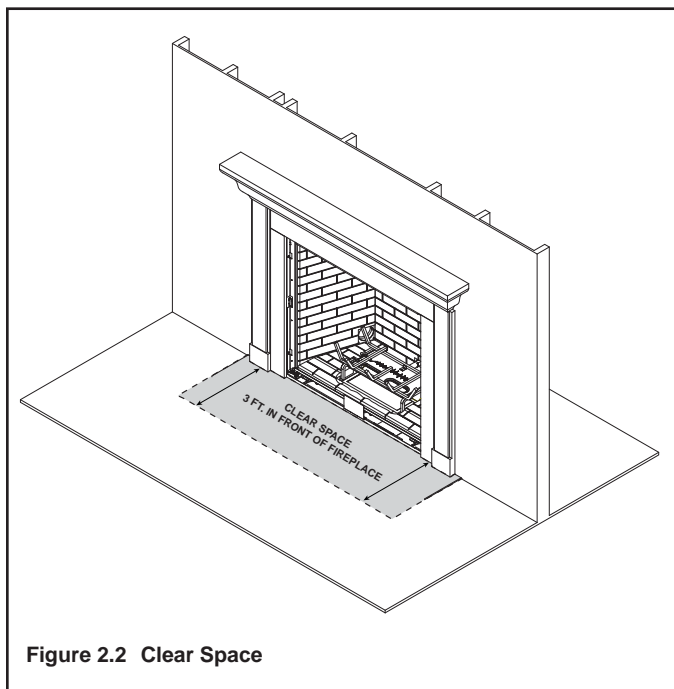

Figure 2.2 Clear Space
**WARNING! DO NOT** place combustible objects in front of the fireplace or block louvers. High temperatures may start a fire. See Figure 2.2.